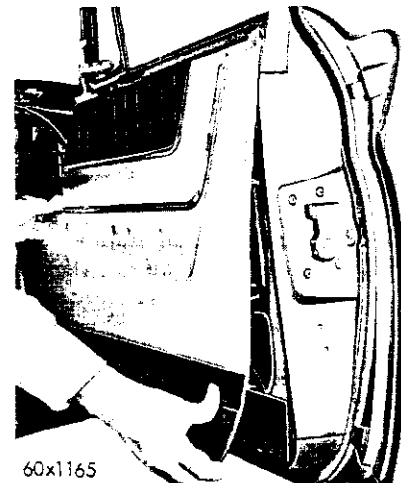
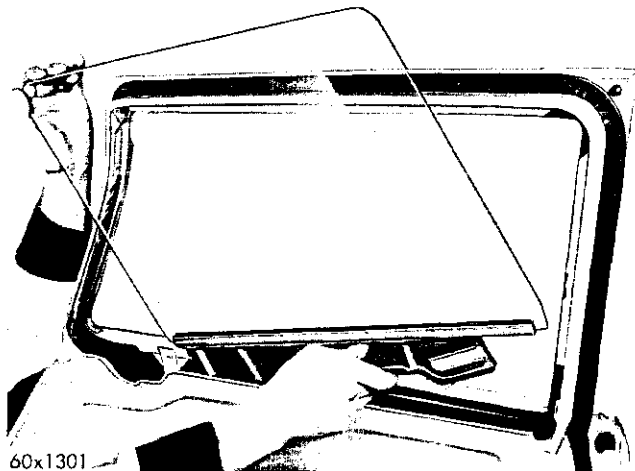

Fig. 44—Removing the Trim Panel
Fig. 46—Removal of the Front Door Glass (Chrysler)
(2) Remove the trim panel (Fig. 44) and water shield.
(2) Remove trim panel (Fig. 44) and water shield.
(3) Lower the glass and remove the upper travel stop.
(4) Raise the door glass and remove glass from regulator arm retainers and door opening, as shown in Figure 46.
- (2) Remove the trim panel (Fig. 44) and water shield.
- (3) Raise the door glass.
- (4) Remove the attaching screws holding the remote control base to the door panel.
- (5) Disconnect the control to lock lever.
- (6) Remove the control through the large opening in the door.